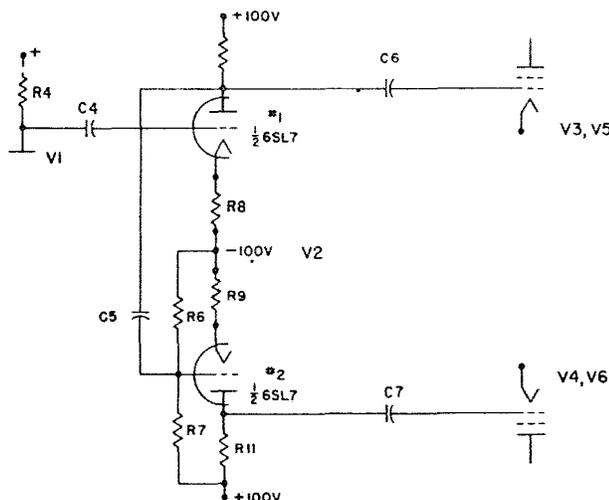

Fig. 3—Phase Inverter Schematic
2.07 The second 6SL7, V2, is a voltage amplifier which converts the single input to push-pull output to drive the push-pull power output tubes, V3, V4, V5 and V6. The circuit of V2 in which a single input is converted to push-pull output is shown schematically in Fig. 3. The two sets of elements of V2 are labeled for convenience #1 and #2. Section 1 acts as a conventional single ended amplifier and accepts the signal voltage from the plate load resistor of V1, amplifies it and supplies the driving voltage for the grids of V3 and V5. Signal voltage from the plate load resistor of section 1 of V2 is also applied through capacitor C5 to the grid of section 2 of V2. The requirements under